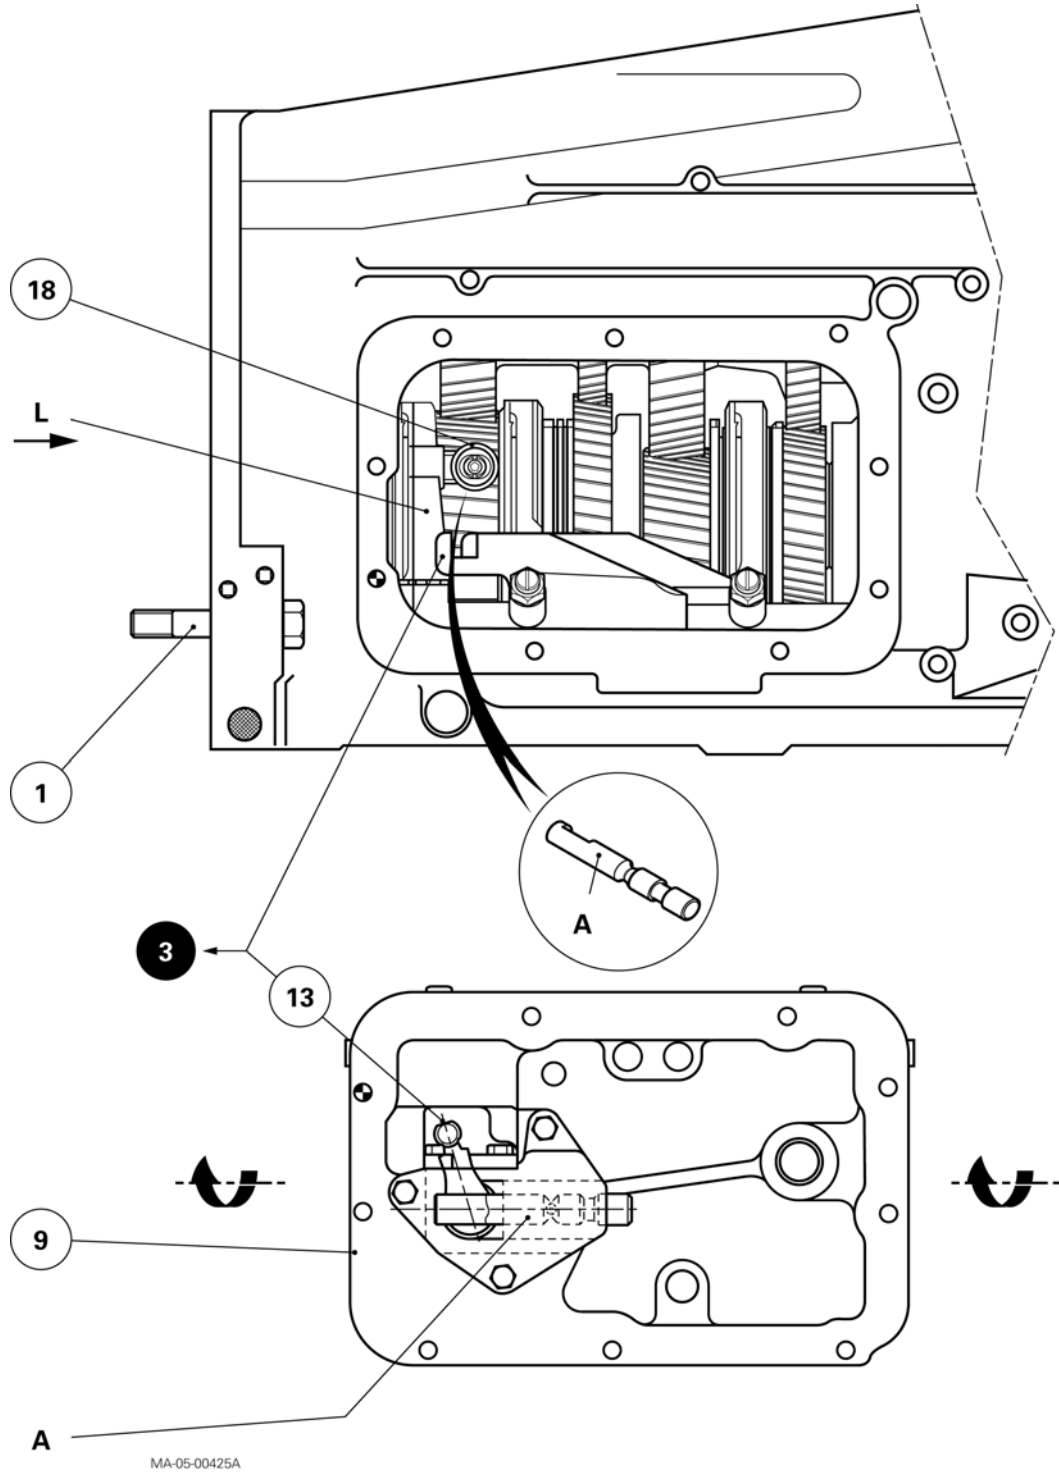

Fig. 8
16. Place the 3rd - 4th fork in ratio 3 (Fig. 8)
IMPORTANT: Before refitting the cover plate, check that the screw (1) is present (Fig. 8).
18. Turn the finger (13) (Fig. 8) to the left.
21. Refit the earthing lug (2). Fit and tighten the screws (3) (4) and the nut (6) to a torque of 50 - 70 Nm.
23. Reconnect the harnesses to the temperature sensor (5) and the Neutral position switch.
Legend Fig. 8